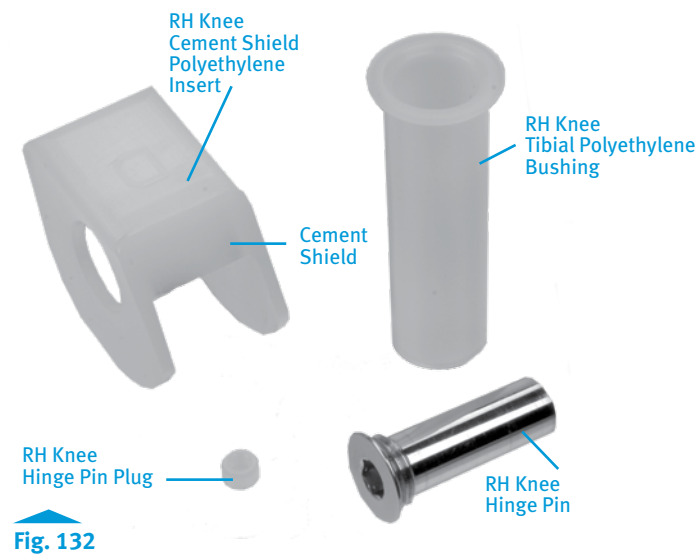

Fig. 132
- Verify that the appropriate size Segmental Articular Surface and NexGen RH Knee Cement Shield Service Kit (Fig. 132) is used (Appendix H).
Warning: When implanting an RH Knee Femoral Component with the Segmental One-piece Hinge Post, use only the RH Knee Cement Shield Polyethylene Insert (Fig. 132). Do not use the Segmental Polyethylene Insert as this is only used on the Segmental System Distal Femoral Component (refer to Appendix H).